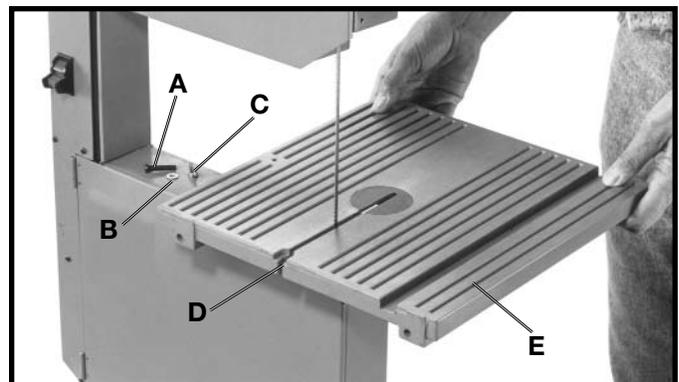

Fig. 8
1. Remove the M6x1x30mm cheese head screw (A), M6.4 flat washer (B), and M6x1 wing nut (C) Fig. 8, from slotted end (D). Slide table (E) into position on the band saw as shown in Fig. 8.